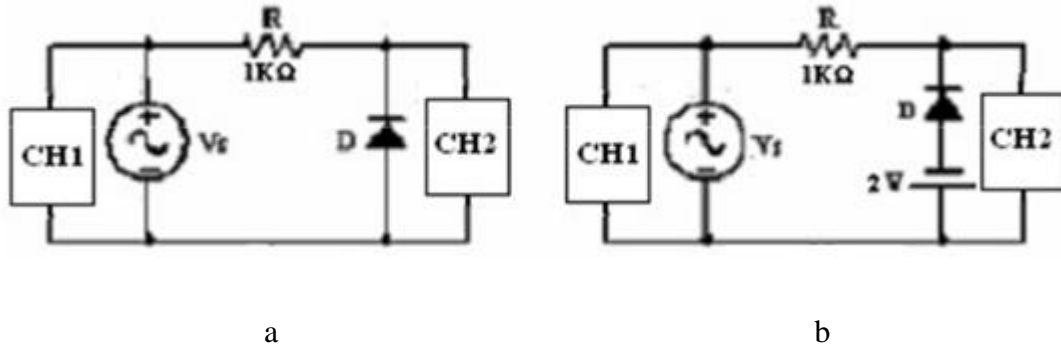

Figure 3.8: Negative clipper circuits
- 6- Switch OFF the Function Generator and insert 2V DC power supply as shown in Figure 3.8 (Positive clipper with bias), then switch ON the Function Generator and repeat step 4.
- 1- Construct the circuit shown in Figure 3.8 by reversing the diode of the previous circuit.
- 5- Switch OFF the Function Generator, and insert 2V DC power supply as shown in Figure 3.8 b (Negative clipper with bias), then switch ON the Function Generator and repeat step 3.
**Negative clipper of figure 3.8 a**
**Negative clipper of figure 3.8 b**